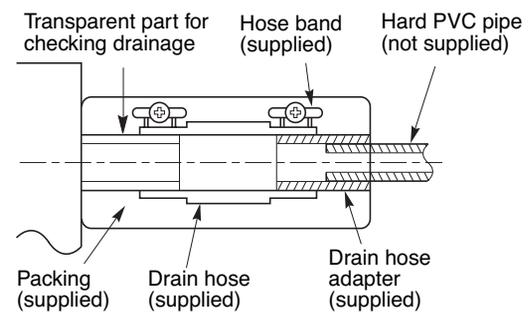

Fig. 3-98
- (1) Prepare standard hard PVC pipe for the drain and use the supplied hose band to prevent water leaks. The PVC pipe must be purchased separately. When doing this, leave a gap between the drain socket of the unit and the PVC pipe to allow the drainage to be checked. The transparent drain pipe allows you to check drainage. (Fig. 3-98)
**CAUTION** Tighten the hose clamps so their locking nuts face upward. (Fig. 3-98)